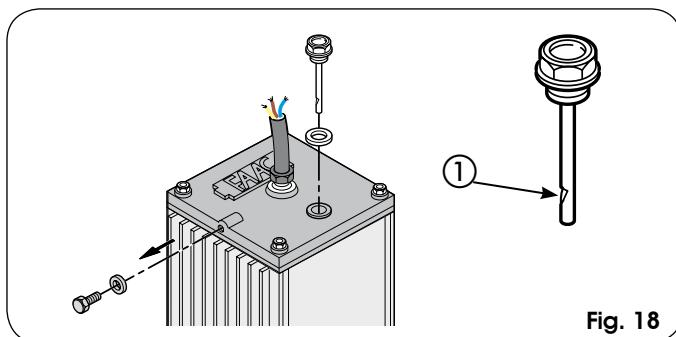
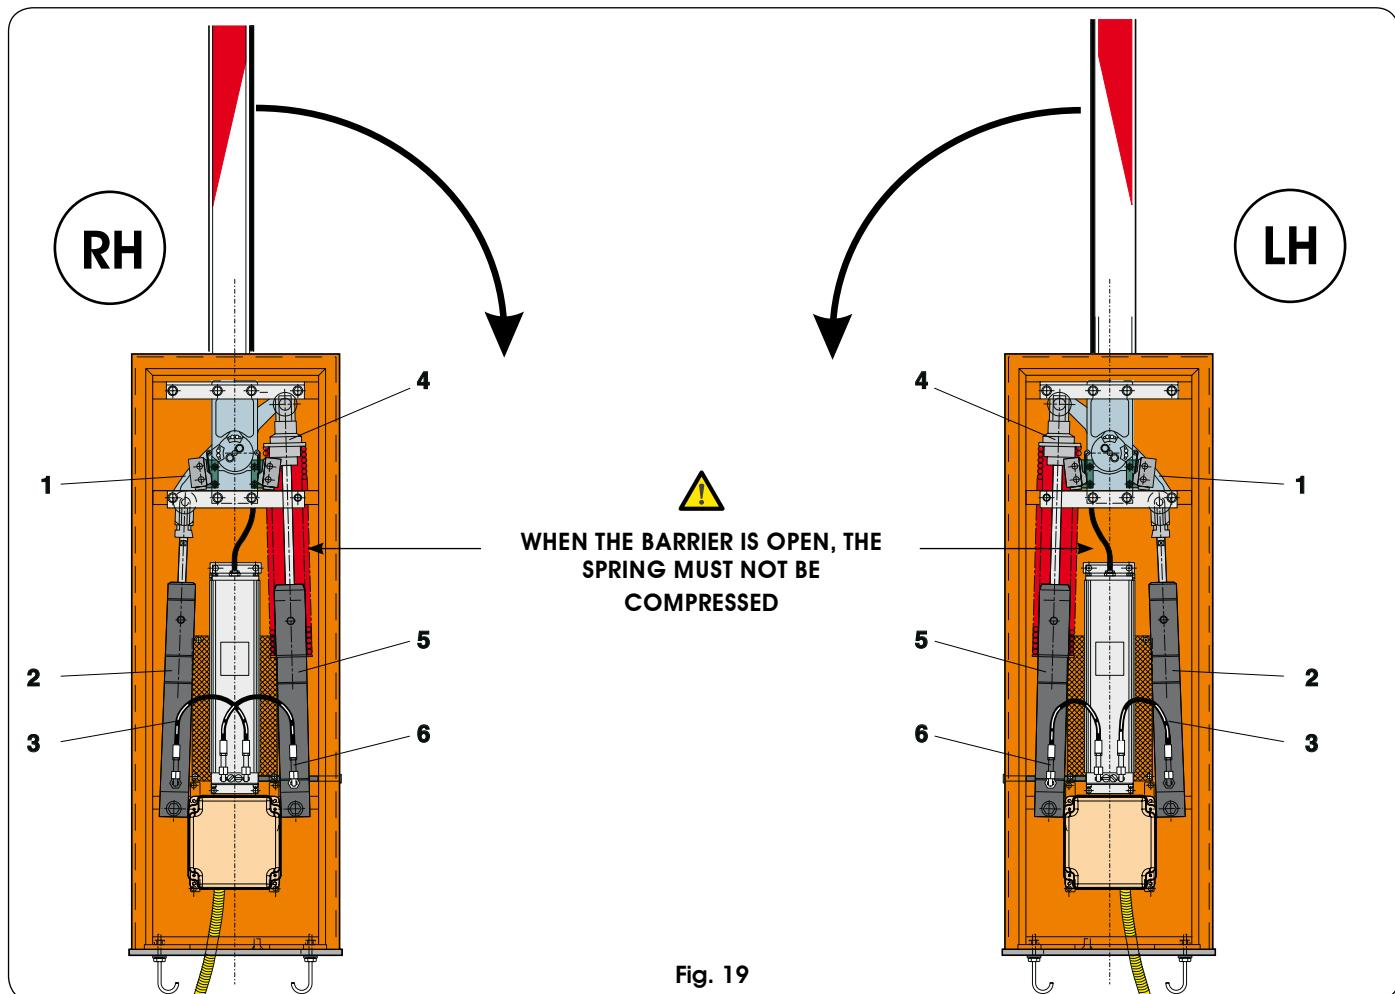

Fig. 18
Fig. 19
The level must not drop below the notch of the control stick (Fig. 18 ref. ①).
To top-up, unscrew the filling plug (fig.18) and pour in oil up to correct level.
5. Fully loosen the spring adjustment ring-nut (Fig.19 ref.④).
6. Detach the feed pipes (Fig.19 ref.③ and ⑥) from the two pistons and plug the unions.
7. Remove the two pistons (Fig. 19 ref. ② and ⑤) from the upper and lower fittings and reverse their position, taking the rocker (Fig.18 ref. ①), against the opening travel limit mechanical stop.
8. Remove the pinion pocket and re-install it to set the barrier at opening as in figure 19.
9. Fit the feed pipes as shown in Fig. 19, according to the configuration of the barrier (RH or LH).